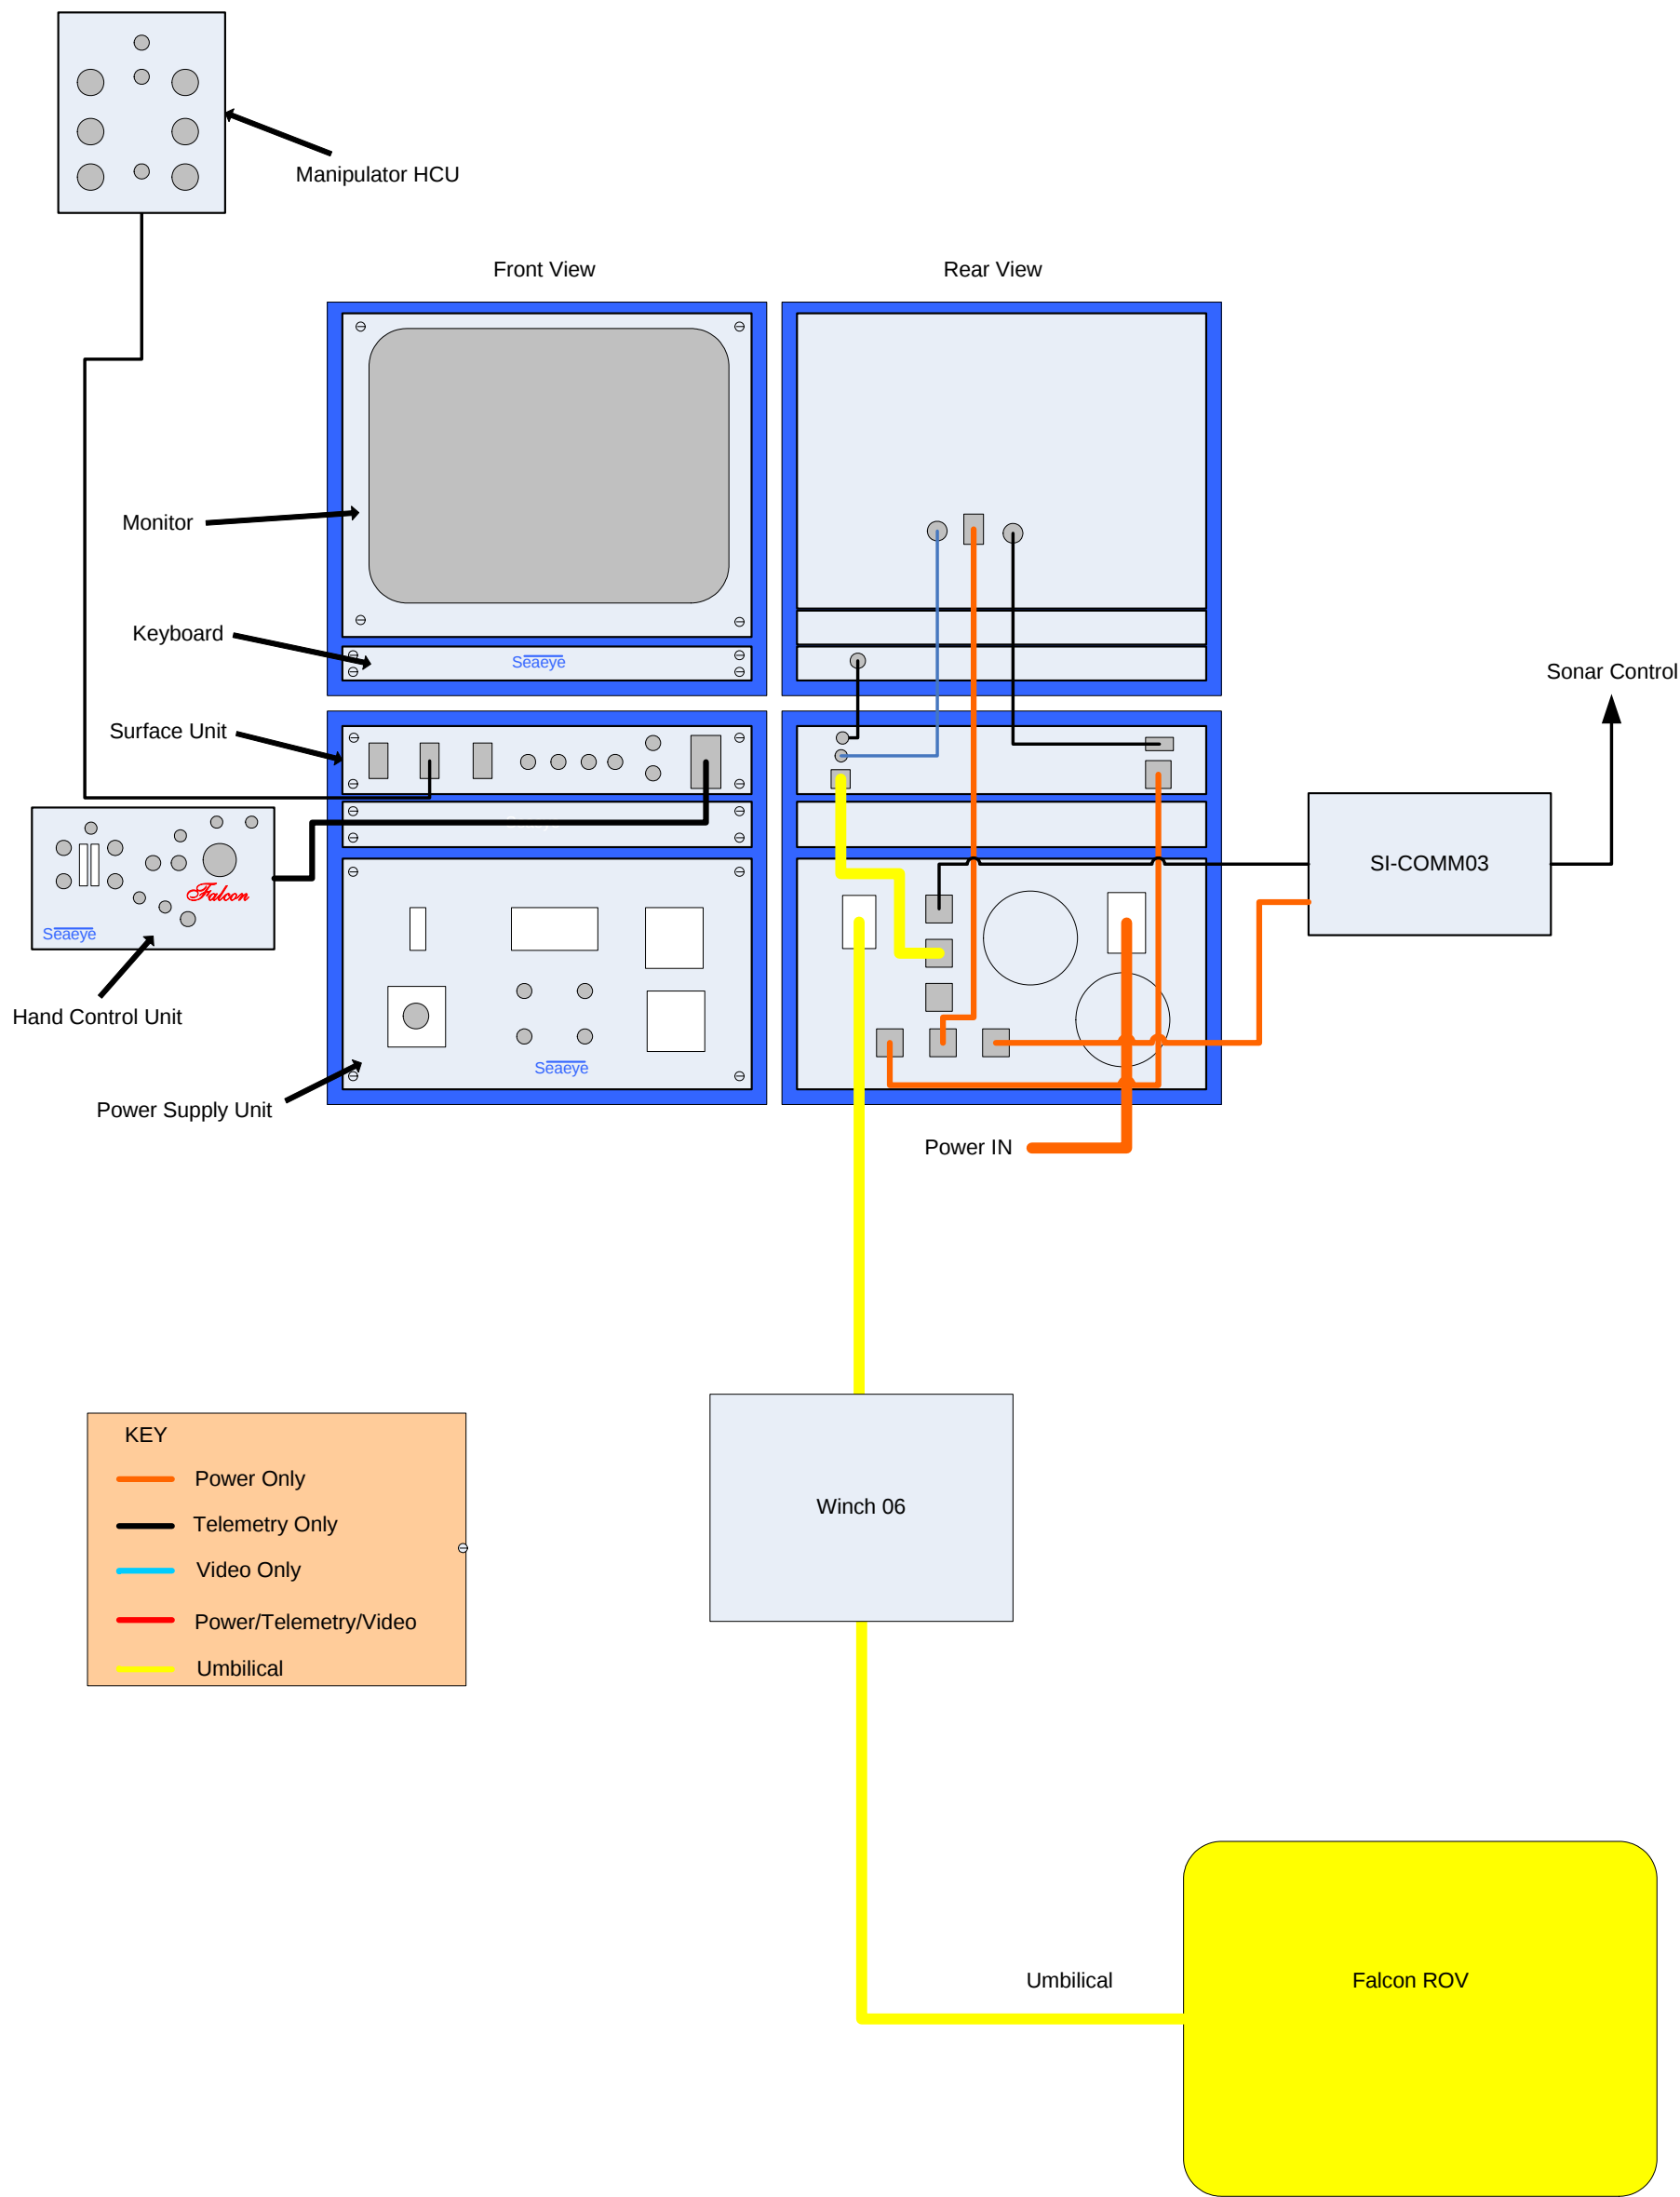

Fig. 4. Falcon System Twisted Pair Surface Equipment Setup
This chapter provides a general description of the main units as an introduction to the Falcon Deep Rated (DR) system serial number 1290, the ROV system technical specification and any related information. The Falcon DR 1290 operational setup is shown in Figures 2 and 3 with its specialist equipment configurations. The surface equipment setup is shown in Figures 4 and 5.
An overview of the Falcon DR 1290 Surface Control Equipment is shown in Figures 4 and 5.